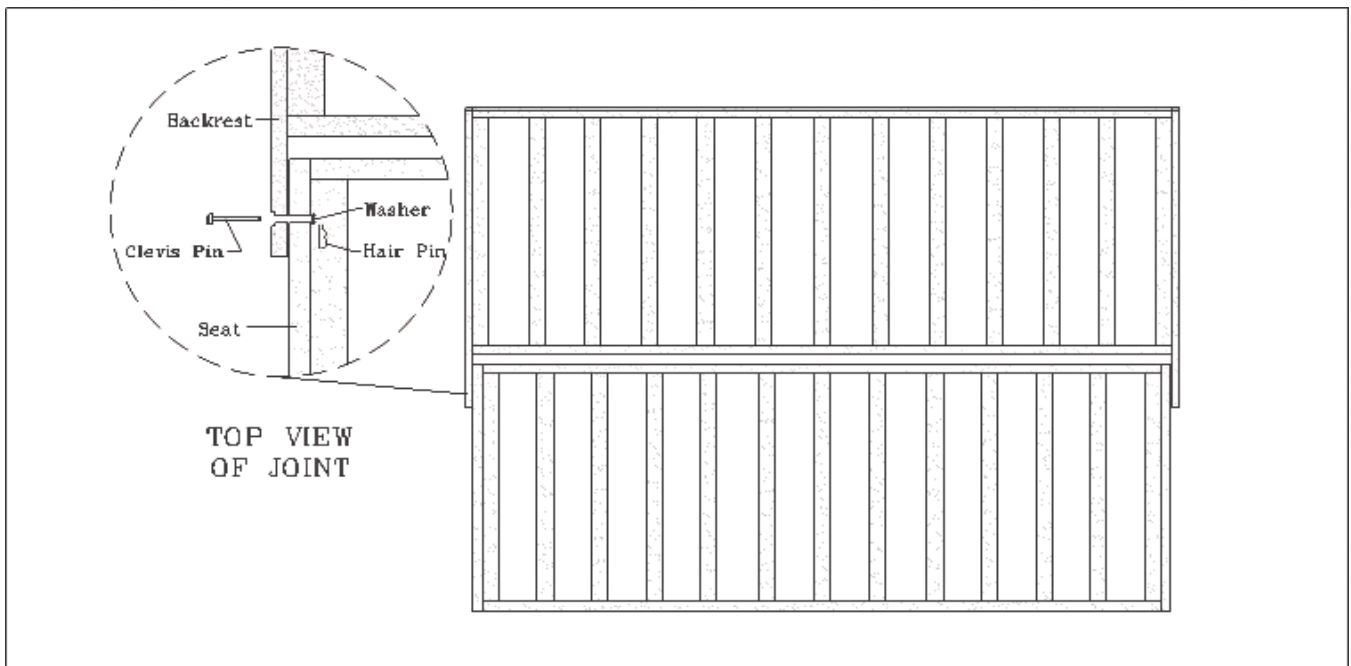

Figure 2
- 3) Line up the hole in backrest with the end hole in seat. Push a clevis pin through hole until it bottoms out in backrest. Place a flat washer over the clevis pin and insert a hair pin into clevis pin. Repeat for opposite side (Figure 2).